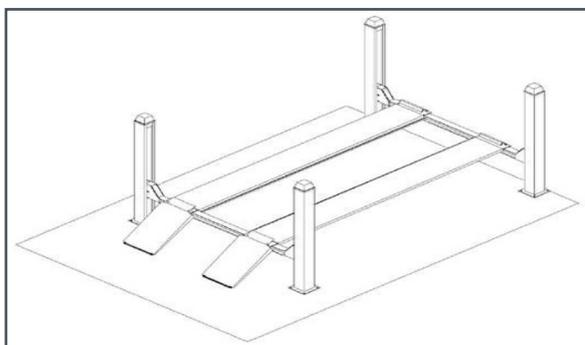

Figure 6
- Do not enter the danger zone when the vehicle is lifted (figure 6).